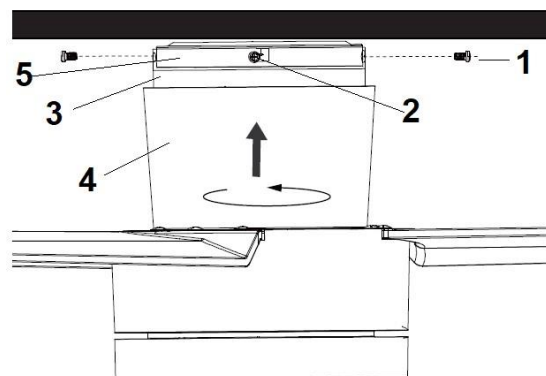

Fig. 9
- Loosen two screws (1) from the mounting bracket (5).
- Loosen two screws (2) by half thread from the mounting bracket (5).
- Lift the hanging canopy (3) of the fan assembly up to the mounting bracket and let the L-shape slot on the hanging canopy go through the screws (2) on the mounting bracket. Turn the hanging canopy until it locks in place at the end section of the L-shape slot and secure it by tightening the two screws (1). Avoid damaging the electrical wiring prepared previously.
- Finally attach the canopy cover (4) to the mounting Fig. 9 bracket, secure it by pushing the hooks of the canopy cover into the slot holes of the hanging canopy and turn it anti clockwise.